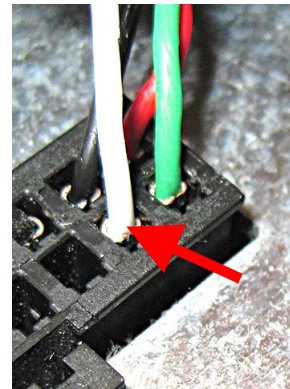

Figure 50
57. Insert the white wire into the position directly in front of the black wire inserted in step 56 (pin 15) (see Figure 50).